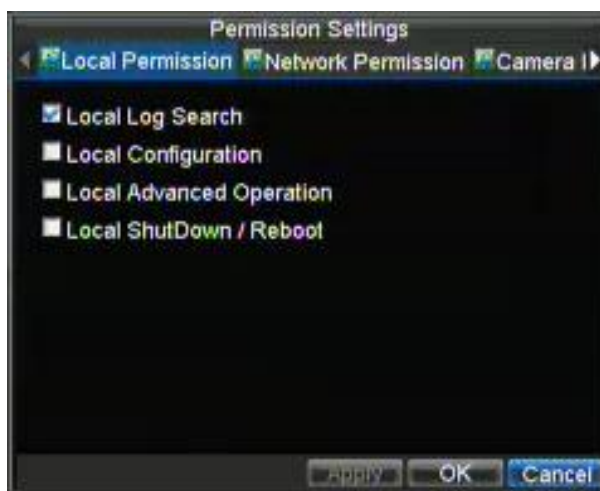

Figure 6. Privilege Settings Menu
5. Select the **Permission** button to enter the **Privilege Settings** menu, shown in Figure 6.